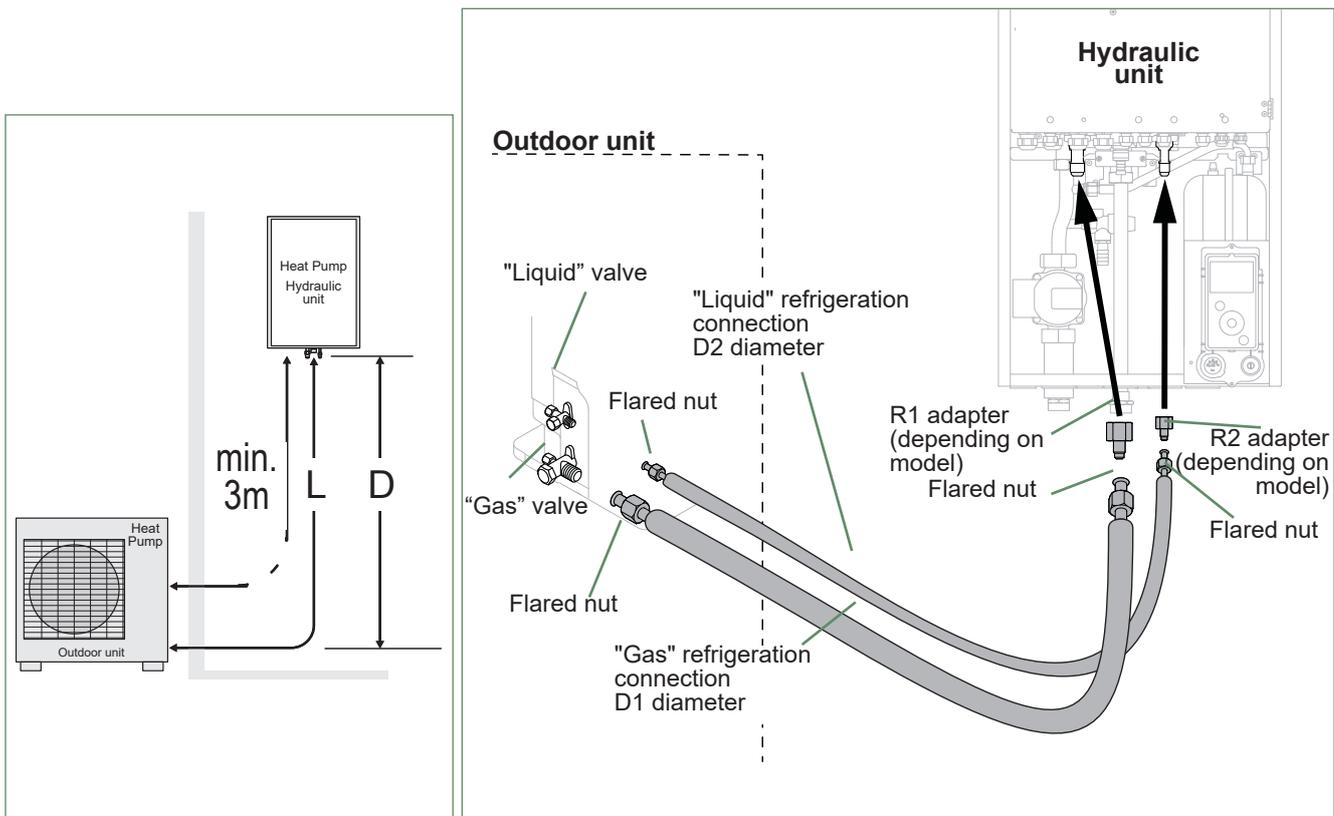

fig. 28 - Refrigeration connections (authorised diameters and lengths)
- Where necessary, connect an adapter (reducer) 1/4"- 3/8" or 1/2"- 5/8" (see *fig. 28*).